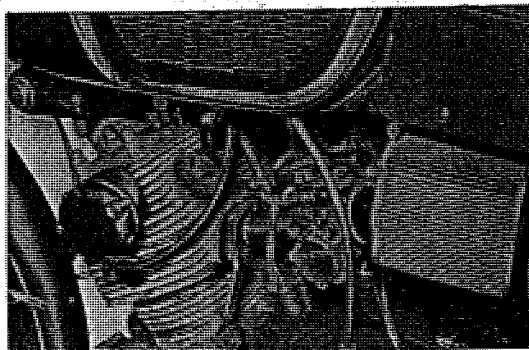

Fig. 3.8 Removing carburetor
9. Separate the carburetor from the insulator section at the engine head side. (Refer to Fig. 3.8)